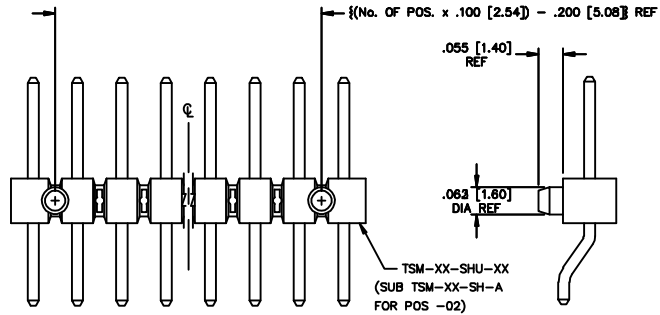

FIG. 4
- A: ALIGNMENT PIN (USE TSM-XX-SH-A BODY FOR MOLDED -A PINS, POS -02, SEE FIG. 2, SHEET 2) (USE TSM-50-SHU-XX BODY FOR MOLDED -A PINS, POS -03 THRU -50, SEE FIG. 2, SHEET 2) (USE TSM-50-SHU BODY FOR STAKED -A PINS, POS -04 THRU -50, SEE FIG. 4, SHEET 2)